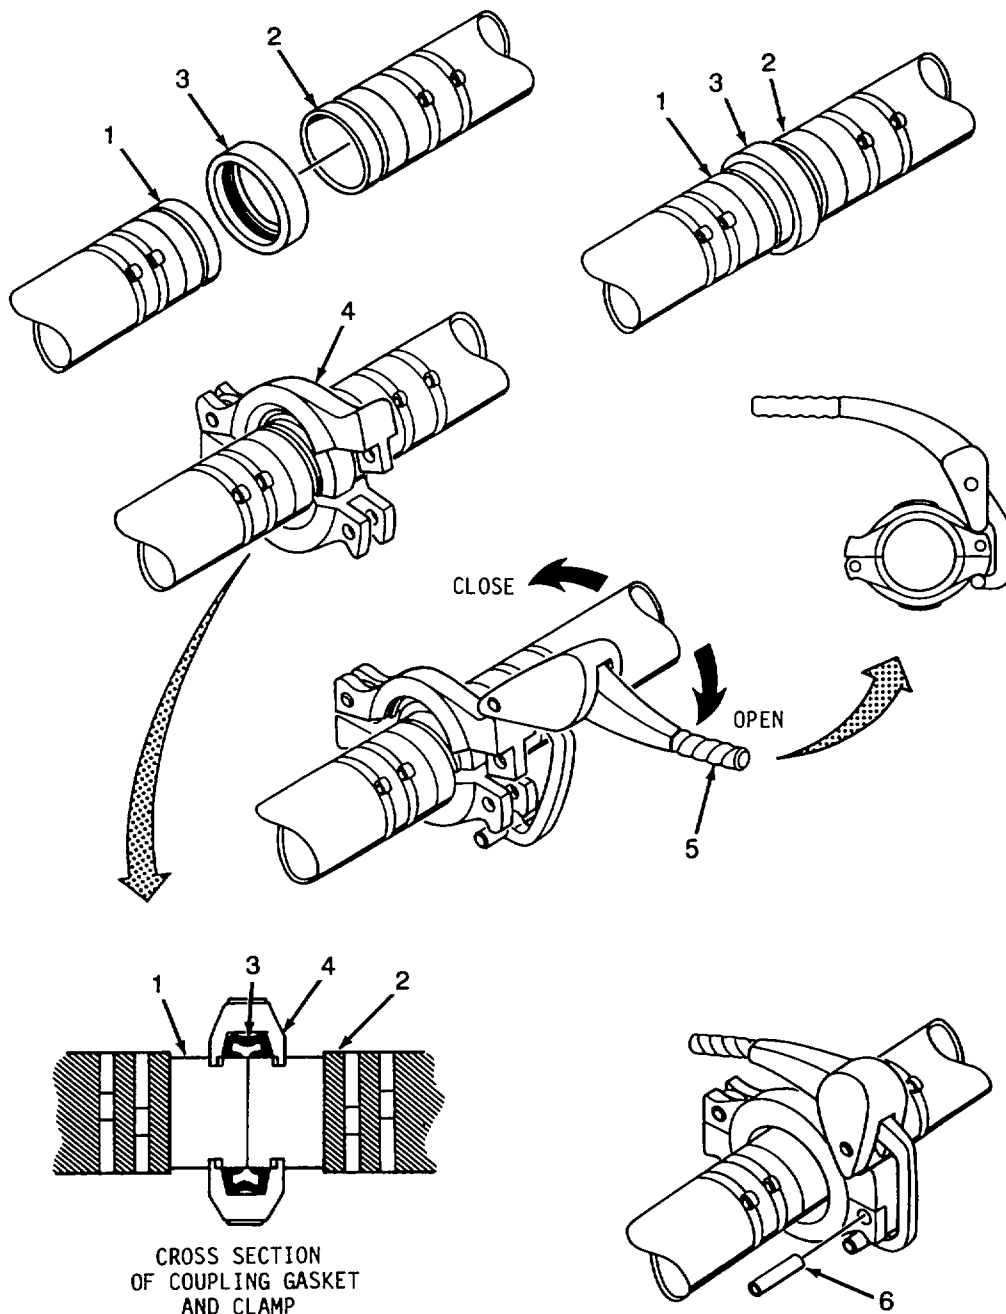

Figure 2-13. Coupling Clamps Installation.
*Installation. Refer to figure 2-13.*
- (1) If installed, remove protective caps from ends of hoses (1 and 2).
- (2) Apply a thin, even coating of lubricant (Item 3, App E) to coupling gasket (3).
- (3) Slide gasket (3) over end of pipe coupling (2).